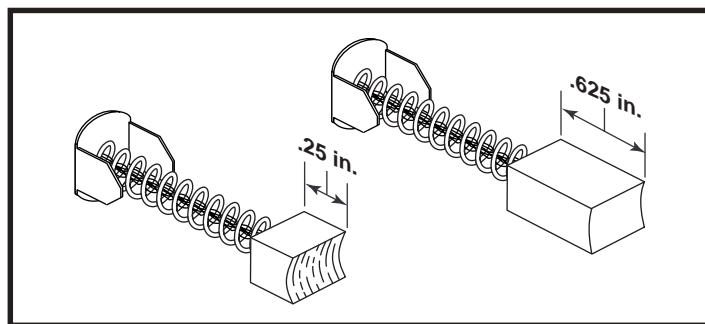

Figure 33. Motor Brushes
3. Remove the motor brushes from the left motor and inspect them for wear or damage. **See figure 33.**
- *If the motor brushes are not worn below 0.25 in. and are not physically damaged, then replace the left motor (9) and retest the system.*